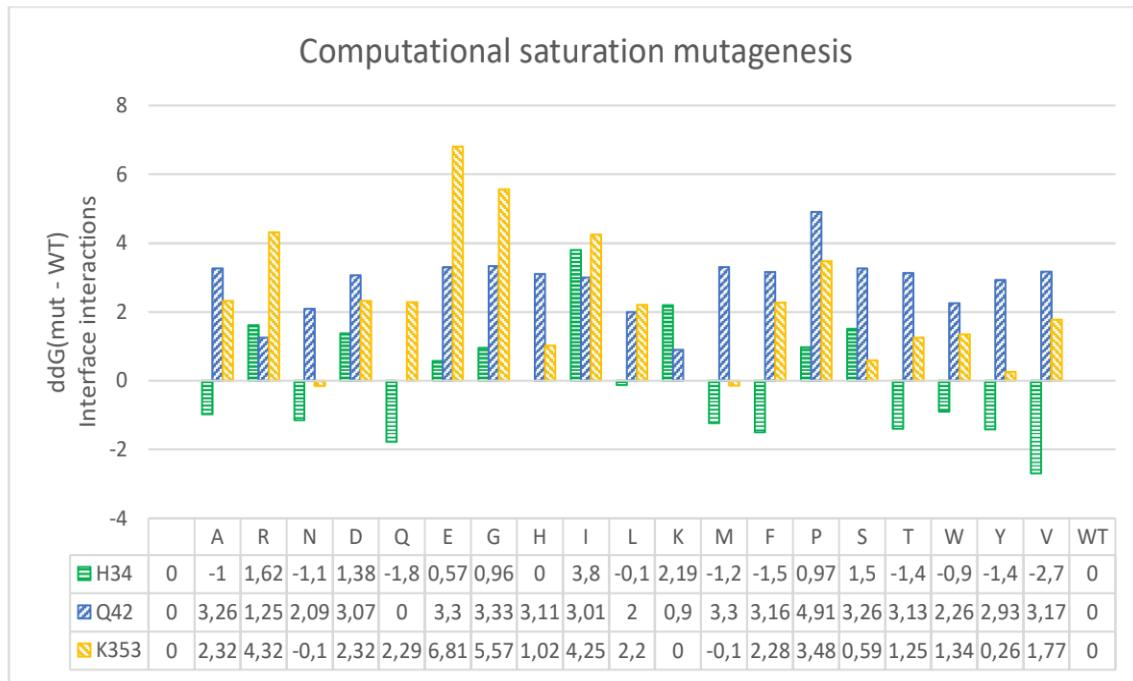
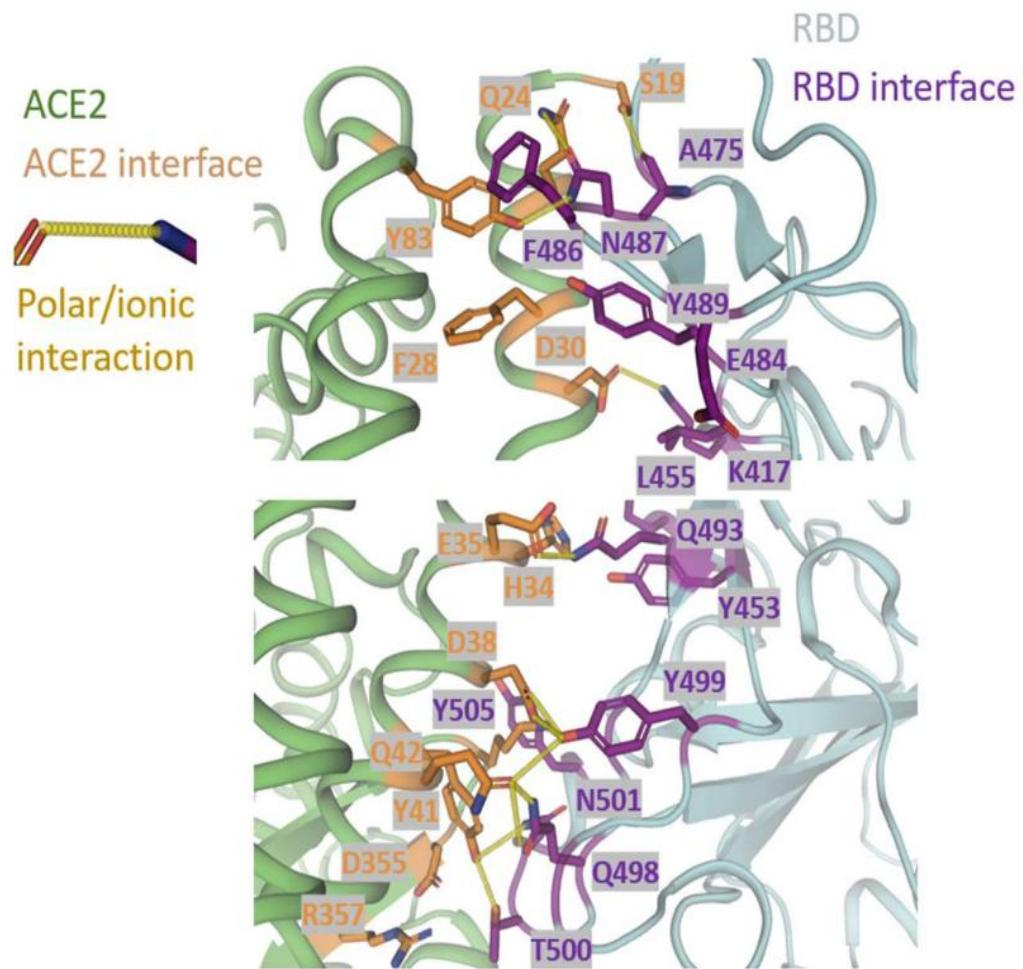

Figure 2: computational saturation mutagenesis of the three residues that were selected from the alanine scan
Figure 3
c) The interface of ACE2 and the RBD is shown in the figure below (Fig. 3). By looking at the amino acids at the interface:
- Pick two disruptive mutations from the table above (Fig. 2) and explain their destabilizing effect based on the binding interface shown in Fig. 3.